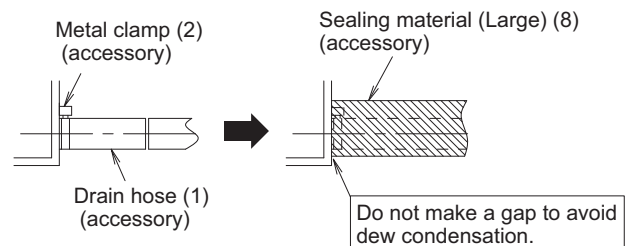
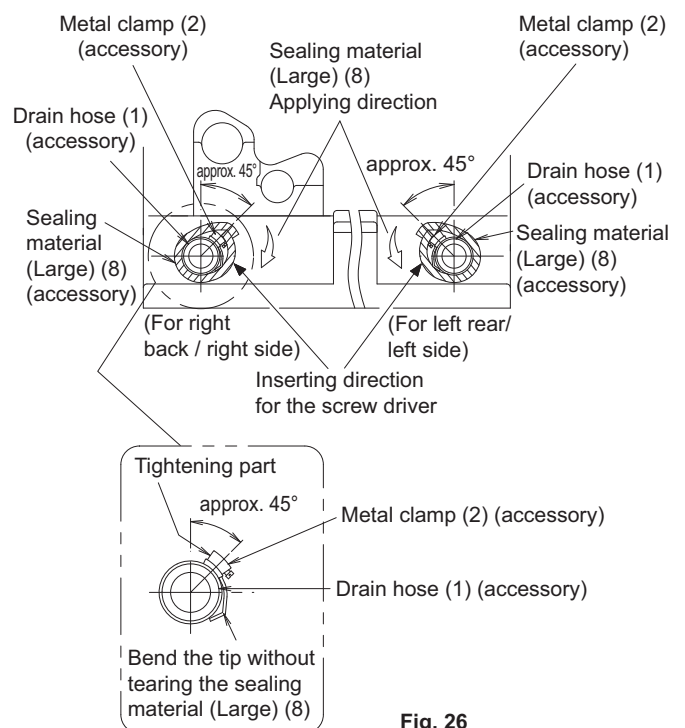

Fig. 25
Fig. 26
- Make sure to use the attached drain hose (1) and metal clamp (2). Also, insert the drain hose (1) into the root of the drain socket, and tighten the metal clamp (2) at the root of the drain socket tightly. (Refer to Fig. 25 and Fig. 26)
(Install the metal clamp (2) so that the tightening part is in the range of about 45° as shown in the Fig. 26.)
- Bend the tip of the metal clamp (2) so that the sealing material does not bulge. (Refer to Fig. 26)
- When performing insulation, wind the large sealing material (Large) (8) attached starting from the base of the metal clamp (2) and drain hose (1) in the direction of the arrow. (Refer to Fig. 25 and Fig. 26)